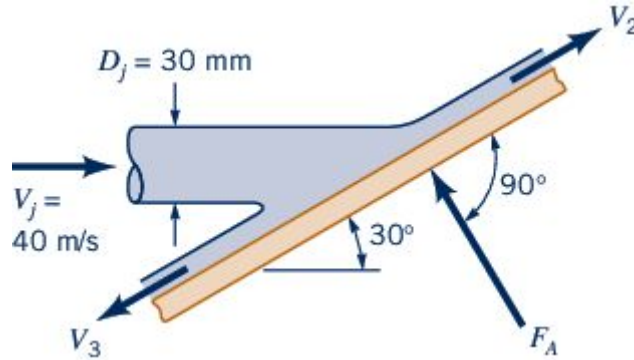

Figure 6: See problem 3.
**Problem:** A horizontal circular jet of air strikes a stationary flat plate as indicated in Figure 6. The jet velocity is  $40 \text{ m/s}$  and the jet diameter is  $30 \text{ mm}$ . If the air velocity magnitude remains constant as the air flows over the plate surface in the directions shown, determine: